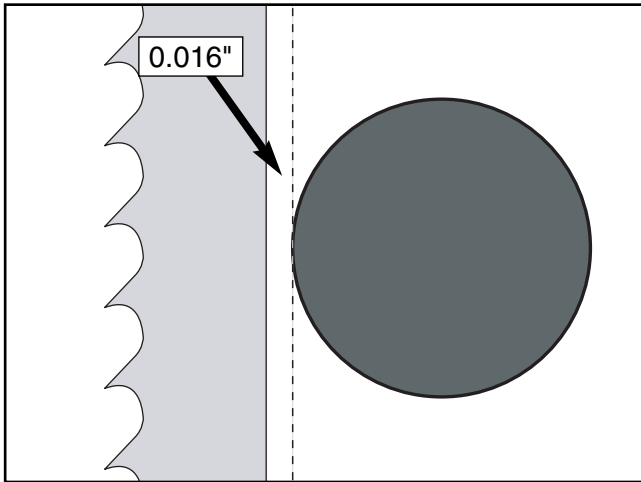

Figure 23. Correct support bearing positioning.
4. Position the support bearings approximately .016" away from the back of the blade as illustrated in **Figure 23**.